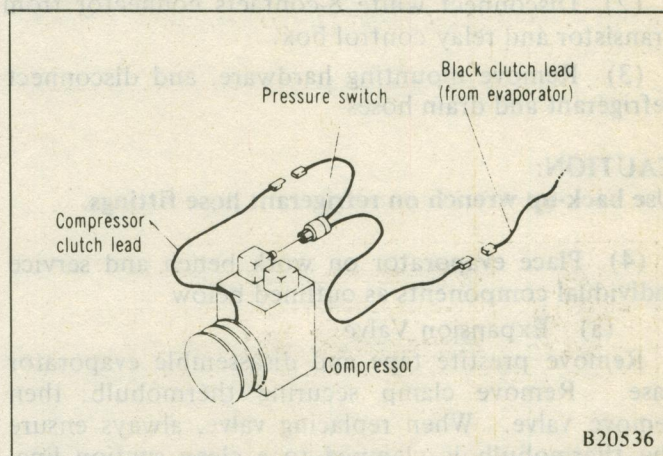

Fig. 26 Clutch and Pressure Switch Connections
Do not tighten pressure switch by plastic body. Switch can be permanently damaged. Connect pressure switch wiring. (Fig. 26)
(1) Disconnect pressure switch wires at the Packard connectors (refer to Fig. 26) and remove pressure switch from compressor discharge service valve. Reconnect wires.
(2) Connect manifold gauge set to compressor. Open valves and bleed any refrigerant in system. (See "Evacuating a System" below.) Connect charging hose to a good vacuum pump. Verify proper hose connections.